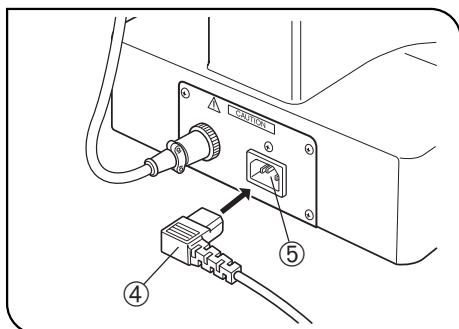

Fig. 50
2. Connect the connector ④ of the power cord to the connector ⑤. (Fig. 50)